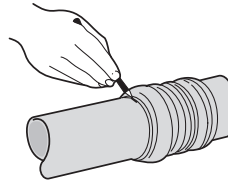

Fig.4b Pushing in pipe/marking pipe
**Step 2** – Push pipe fully into socket. Mark pipe along edge of socket (Fig.4b)